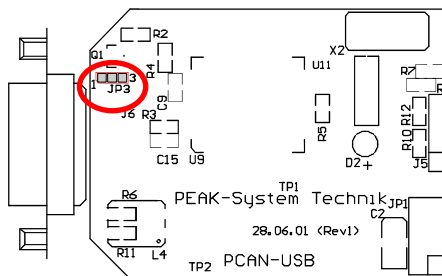

Figure 3: PCB PCAN-USB, JP3
2. Set the solder bridge on the PCB of PCAN-USB or PCAN-USB ISO according to the desired function. Figure 3 and Figure 4 show the corresponding positions on each PCB, the table below shows the possible configurations.